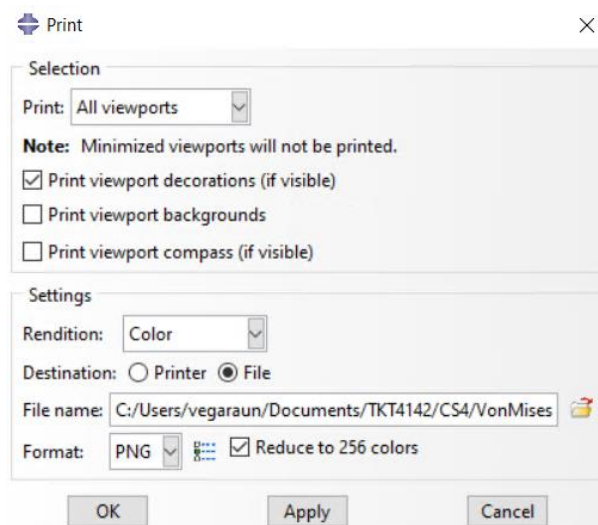

Figure 1-36 –The Print dialog box
6. Export a picture of the deformation plot from **File → Print** in the main menu bar. Change the **Destination** to **File** in the **Print** dialog box and set your destination. Use PNG as format. See Figure 1-36.